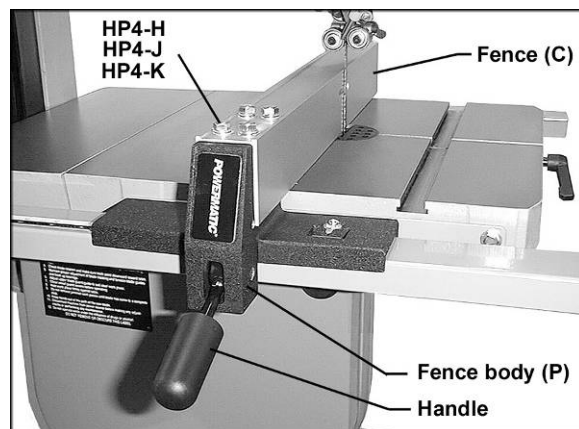

Figure 28
3. Attach the *fence* (C, Figure 28) to the *fence body* (P) with four *5/16"x3/4" hex cap screws* (HP4-H), four *5/16" lock washers* (HP4-J) and four *5/16" flat washers* (HP4-K). Tighten the screws with a 12mm wrench.
5. Hook the fence assembly over the rear rail, and onto the guide rail, as shown in Figure 28.